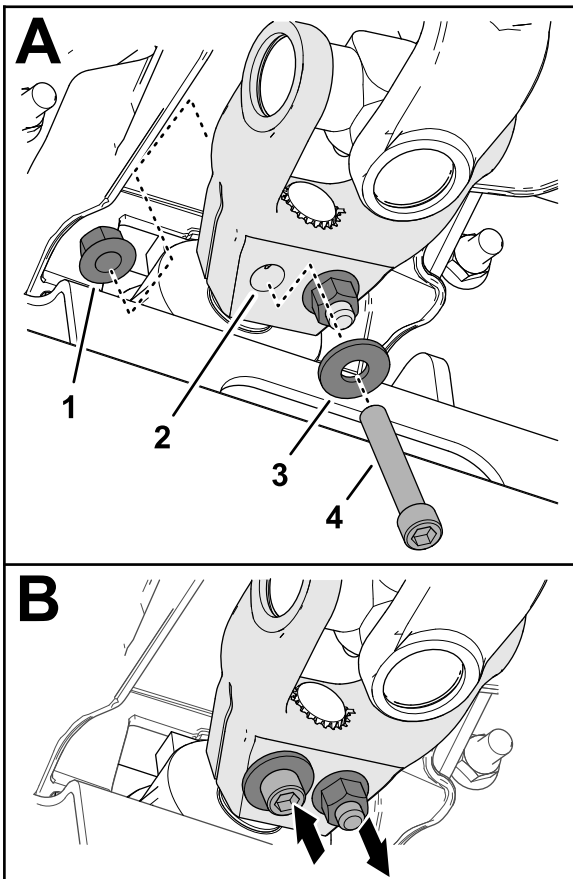

Figure 18
6. Assemble a socket-head capscrew (3/8 x 2-1/4 inches) through a washer (3/8 inch) and the hole in the driveshaft yoke (Figure 18), and secure the capscrew with a flange-locknut (3/8 inch).
(Figure 18), and secure the capscrew with a flange-locknut (3/8 inch).